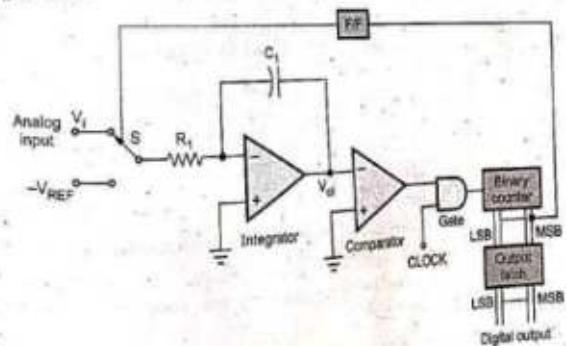

Fig. 6.8.1 Dual slope ADC converter
- Fig. 6.8.1 shows a typical dual slope converter circuit. It consists of integrator (ramp generator), comparator, binary counter, output latch and reference voltage.